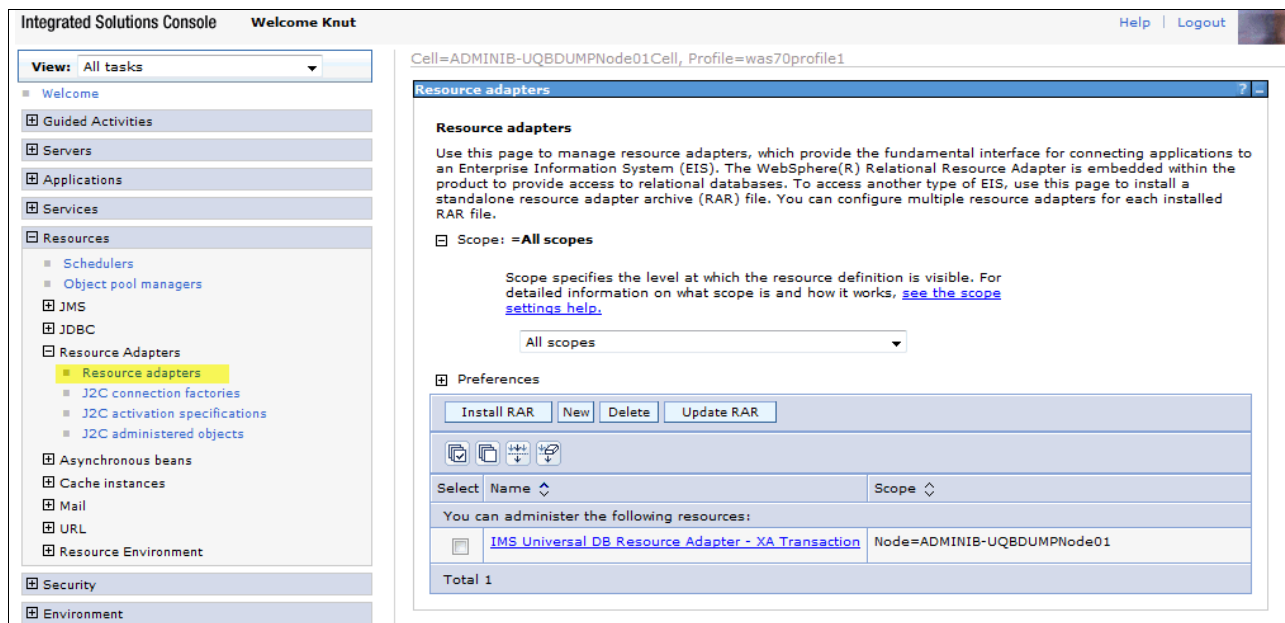

Figure 6-8 Resource adapter configuration in WebSphere Application Server
1. In the navigation pane in the administrative console (also known as the Integrated Solutions Console), click **Resources** → **Resource Adapters** → **Resource adapters**, as shown in Figure 6-8.